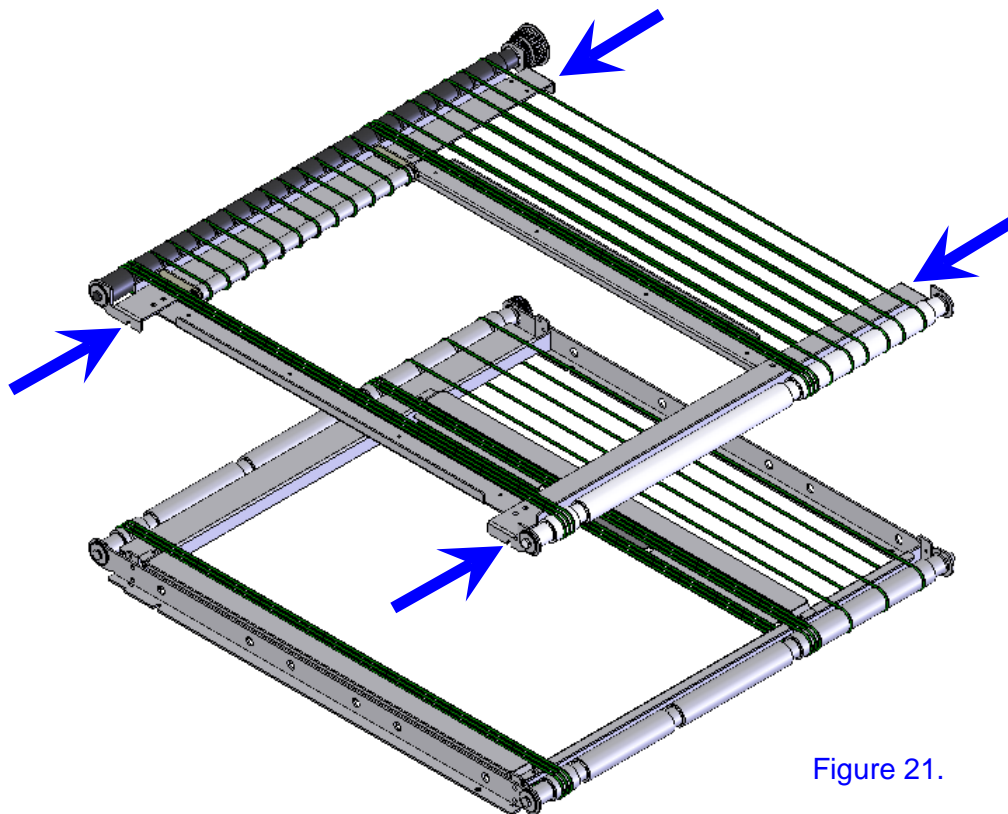

Figure 21.
25. Loosen the four bolts (7mm) indicated by the blue arrows to separate the Upper and Lower Film Feeder sections. See Figure 21.